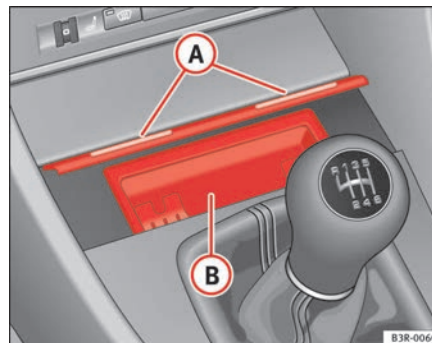

Fig. 125 Centre console: Open ashtray
- Lightly press the front part of the ashtray (A) ⇒ fig. 125.
- Take hold of the sides of the ashtray (B) ⇒ fig. 125 and lift it out. ▶